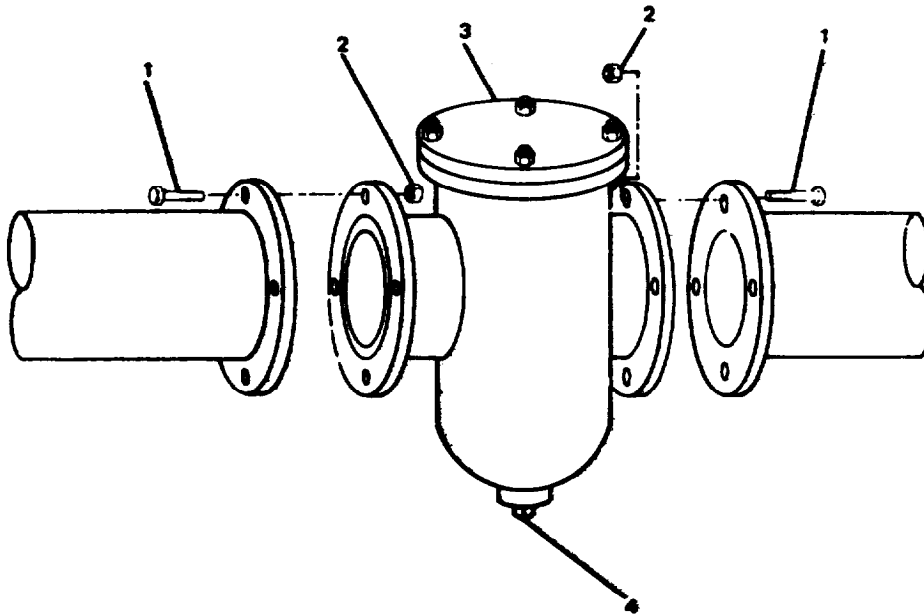

FIGURE 2-244. 5-Inch Sediment Strainer Basket, Removal.
- a. Place a drip pan under sediment strainer basket (3, FIGURE 2-244) and remove drain plug (4).
- b. Replace drain plug (4) after draining strainer.
- c. Remove nuts (2) and bolts (1).
- a. Install sediment strainer basket (3, FIGURE 2-244) and attach with bolts (1).
- b. Install nuts (2) and torque to 75 ft-lb (102 N•m).